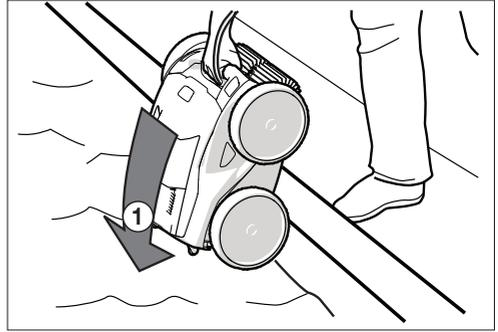

Figure 4. Submerge the Cleaner Vertically
2. At the center point, submerge the cleaner in the pool and hold in the vertical position to release any air trapped inside. (Figure 4).